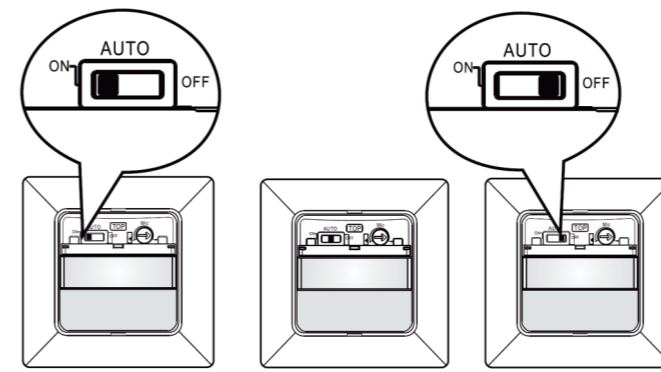

FIG. 13
4.1.2 Slide switch function (See FIG. 13)